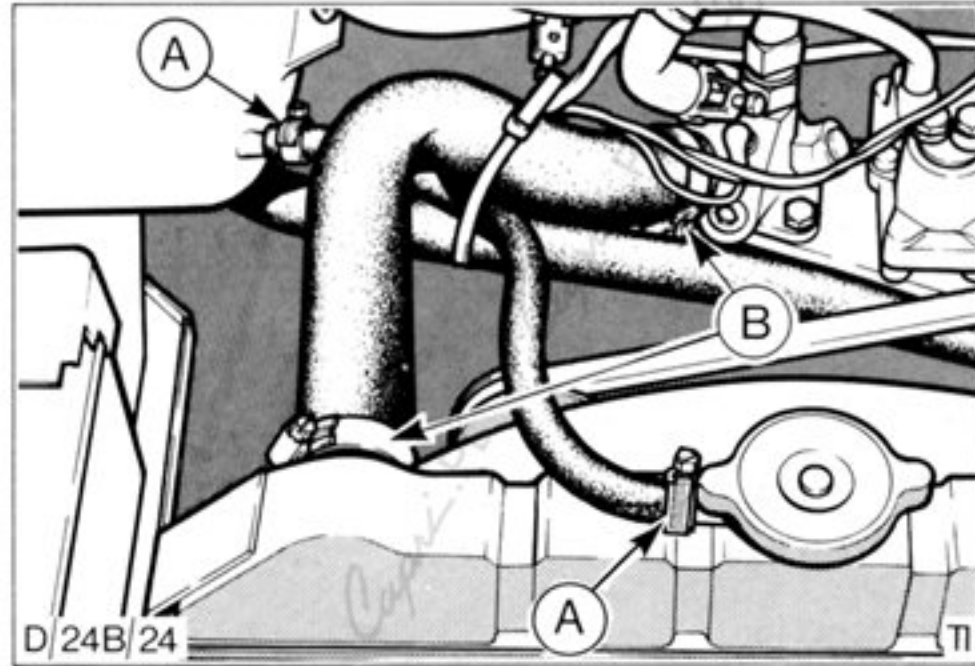

Fig.35. Radiator top hose and overflow hose connections.
5. Loosen both radiator top hose clamps and remove top hose, Fig.35.
6. Loosen both clamps of hose from degas tank to radiator, Fig.35, and remove hose.